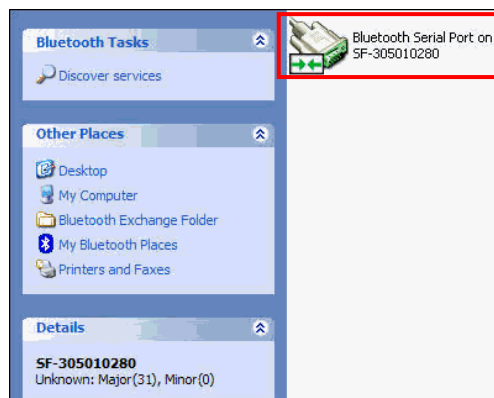
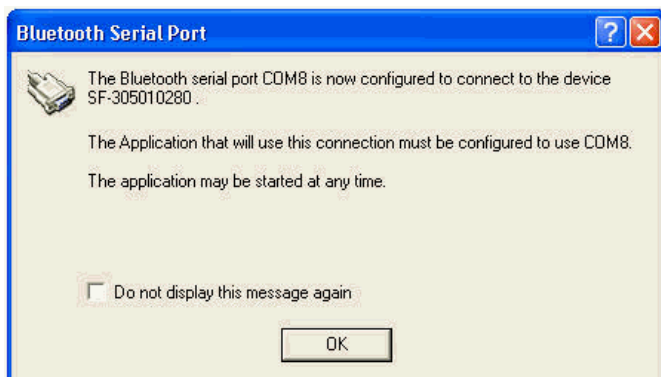

Figure 55: Bluetooth Serial Port Connection
Figure 56: Bluetooth Serial Port
7. Double-click the Bluetooth serial port icon. A graphic with green arrows indicates a connection is established between the Bluetooth Virtual COM port on the PC and the Bluetooth dongle (see Figure 55).
8. Double-click the Bluetooth serial port icon shown in Figure 55 to display the *Bluetooth Serial Port* dialog box (see Figure 56), which confirms the configured COM port.
10. To verify the assigned COM port, right-click the Bluetooth serial port icon (refer to Figure 55) and select *Properties* on the pop-up menu (the *Bluetooth Properties* dialog box opens).
15. Under *COM Port Settings*, select the appropriate COM Port (refer to Figure 56, above).